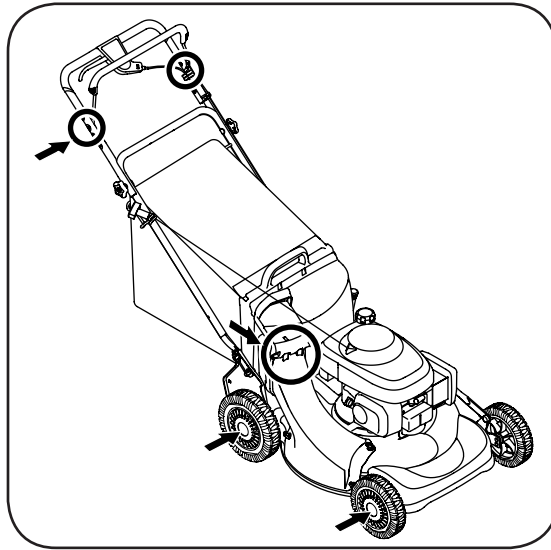

Figure 5-1: Areas to lubricate on the mower.
- Lubricate pivot points on the blade control at least once a season with light oil. The blade control must operate freely in both directions. See Figure 5-1.